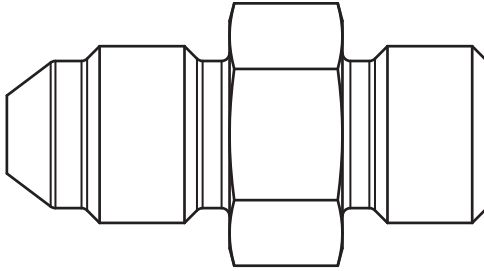

Figure 2 - OM-10-XX Fitting Style
- SAE -10 ORB to SAE 37° male flare, shown in Figure 2: